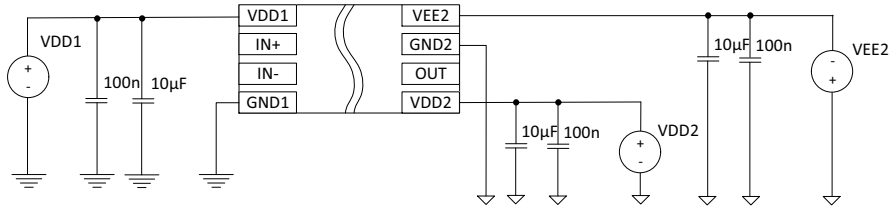

Figure 26. Bipolar Power Supply NCD57090B
- In bipolar power supply the driver is typically supplied with a positive voltage of 15 V at VDD2 and negative voltage -5 V at VEE2 (Figure 26). Negative power supply prevents a dynamic turn on through the internal IGBT input capacitance